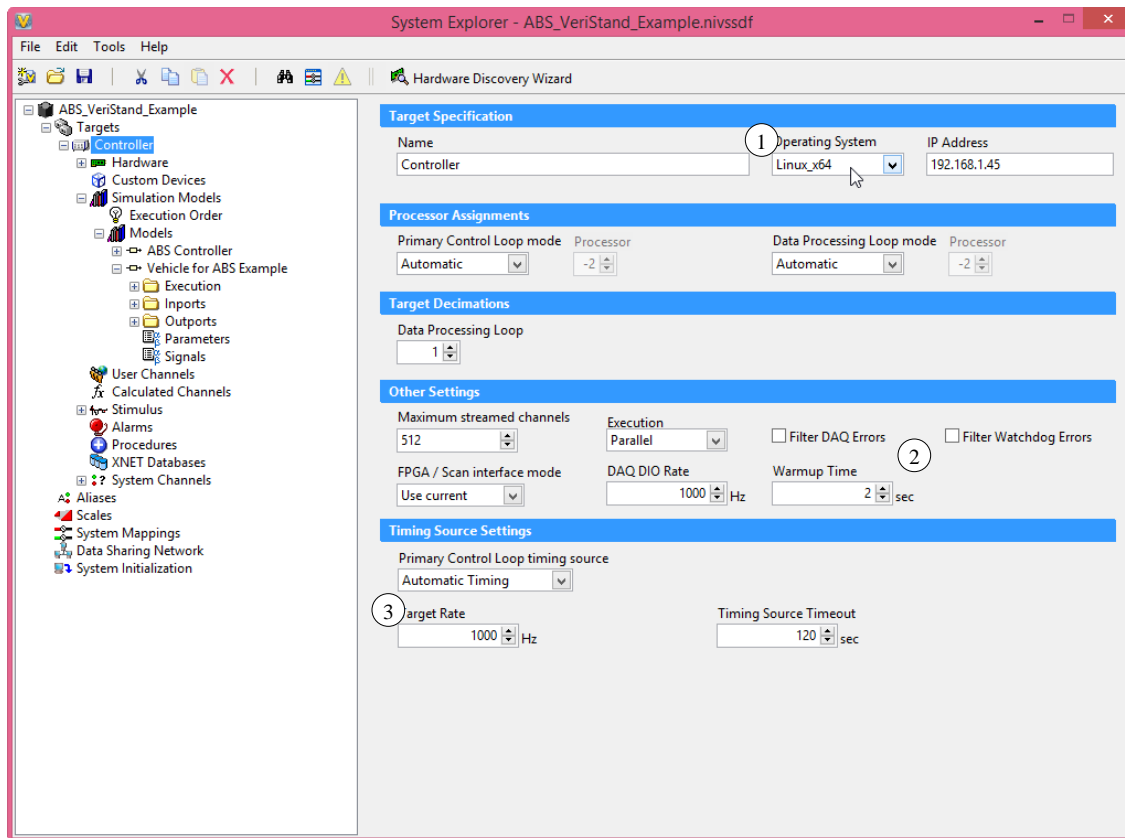

Figure 37. VeriStand Controller Settings.
- Click on the **Controller**. On the resulting screen (Figure 37), set the **Operating System** ① and **IP Address** ② for your target system, and set the **Target Rate** ③ to match your CarSim setting.